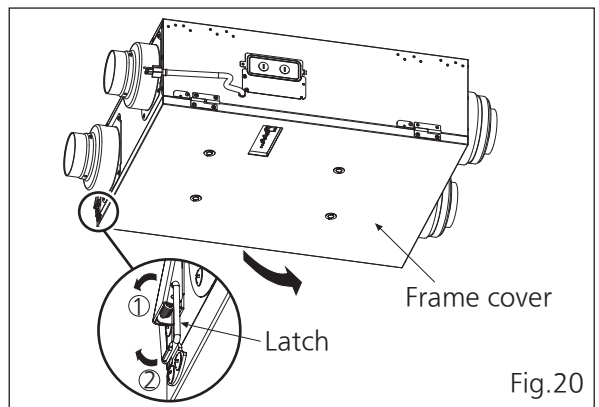

Fig.20
The method of remove and install OA filter please refer to P.17~P.18 (Fig.20~22) and P.18 (Fig.24~25).
1. Open the frame cover by unlocking the latches. (Fig.20)